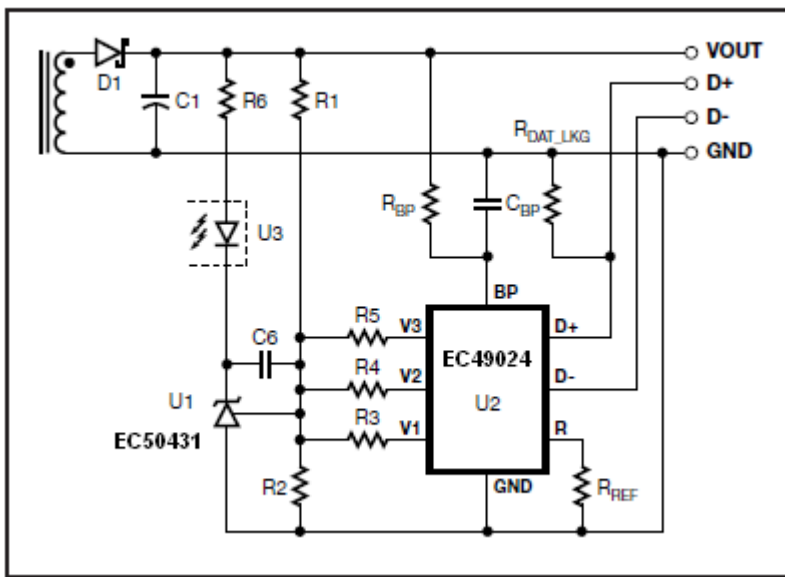

Figure 1. EC49024 with Traditional Output Regulation (CV Only).
EC49024 is a low-cost USB high-voltage dedicated charging port interface IC for the Quick Charge 2.0 specification. It incorporates all necessary functions to add Quick Charge 2.0 capability to standard Adaptors, Car-chargers, and Portable Battery Packs. EC49024 also supports other solutions with traditional feedback schemes like opto-coupler and secondary reference regulator EC50431 as depicted in Figure 1. EC49024 supports the full output voltage range of Quick Charge 2.0 Class A (5 V, 9 V, or 12 V) or Class B (5 V, 9 V, 12 V, or 20 V). It automatically detects either Quick Charge 2.0 capable powered devices (PD) or legacy PDs compliant with the USB Battery Charging Specification revision 1.2 and only enables output voltage adjustment accordingly.
The internal shunt regulator clamps the BYPASS pin at 6 V when current is provided through an external resistor (R_{BP} in Figure 1). This facilitates powering of EC49024 externally over the wide power supply output voltage range of 5 V to 20 V. Recommended values are $R_{BP} = 4.7 \text{ k}\Omega$ and $C_{BP} = 220 \text{ nF}$.
For Quick Charge 2.0 Class A support only, the V3 pin has to be connected to the BYPASS pin (directly or through a resistor up to 100 kΩ). This will inhibit any requests for setting a 20 V output. is pulled down by resistor $R_{DAT(LKG)}$ (see Figure 1). Once it drops below 0.325 V EC49024 will turn on switch N5 (thereby short-circuiting D+ and D-) and turns off switches N1 to N4. This sets the default output voltage of 5 V. The recommended value for $R_{DAT(LKG)} = 390 \text{ k}\Omega$.